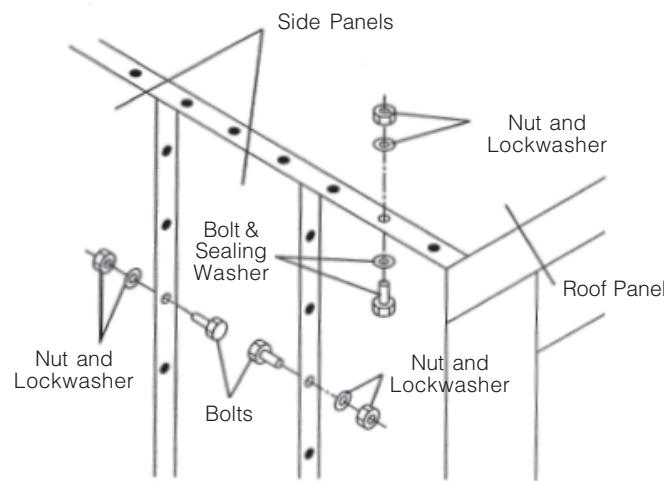

Figure 3-13. Bolt Positions for Side and Roof Panels
12. Attach panel to base and adjacent panel. Make sure bolts along vertical joint are installed with the bolt heads facing toward center of cabinet (see Figure 3-13).
21. Attach roof panels starting from one end of the cabinet. Panels are labelled indicating which end is attached to the service side of the cabinet. Use alignment pins to align bolt holes and install bolts finger tight. Ensure bolts are installed with the bolt heads located on inside of cabinet (see Figure 3-13).